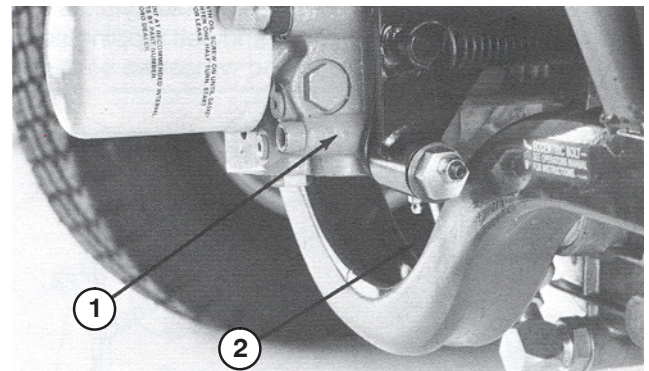

Figure 7
1. Apply medium strength Loctite to coupler output shaft on rear of hydrostat (Fig. 7).